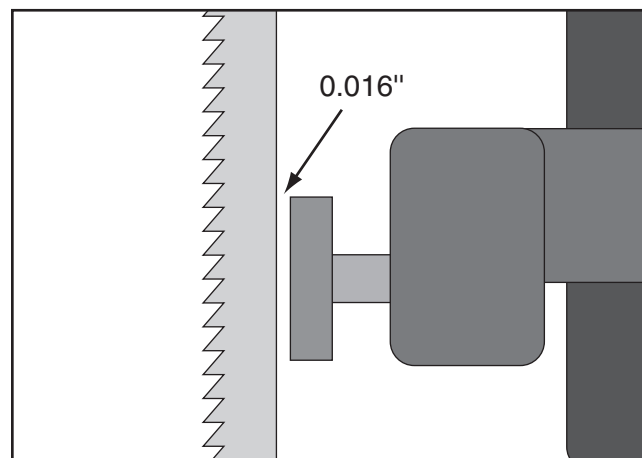

Figure 31. Blade should be aligned approximately 0.016" away from the bearing edge.
7. Use the knurled knob to position the support bearing approximately 0.016" away from the back of the blade, as illustrated in **Figure 31**. This can be measured with a feeler gauge or a dollar bill.